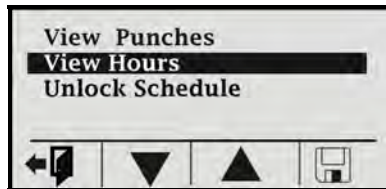

Figure 21: View Hours at Terminal
- From the normal main display press the menu  button on the left to view employee information choices (see **Figure 21**).